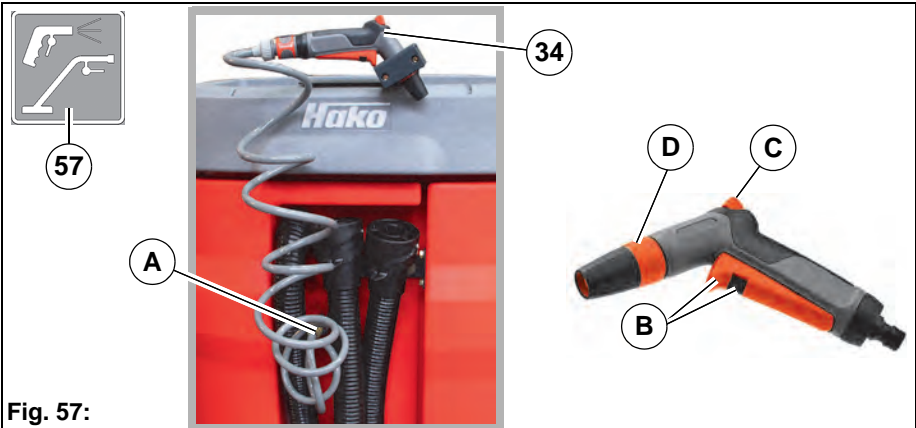

**Fig. 56:**
The manual suction tool **Fig. 56-A** is used for manually cleaning difficult-to-reach points.
1. Reconnect the suction hose in the park position **Fig. 56-B**.
2. Insert the hose of the tool into the opening of the vacuum system **Fig. 56-C**.